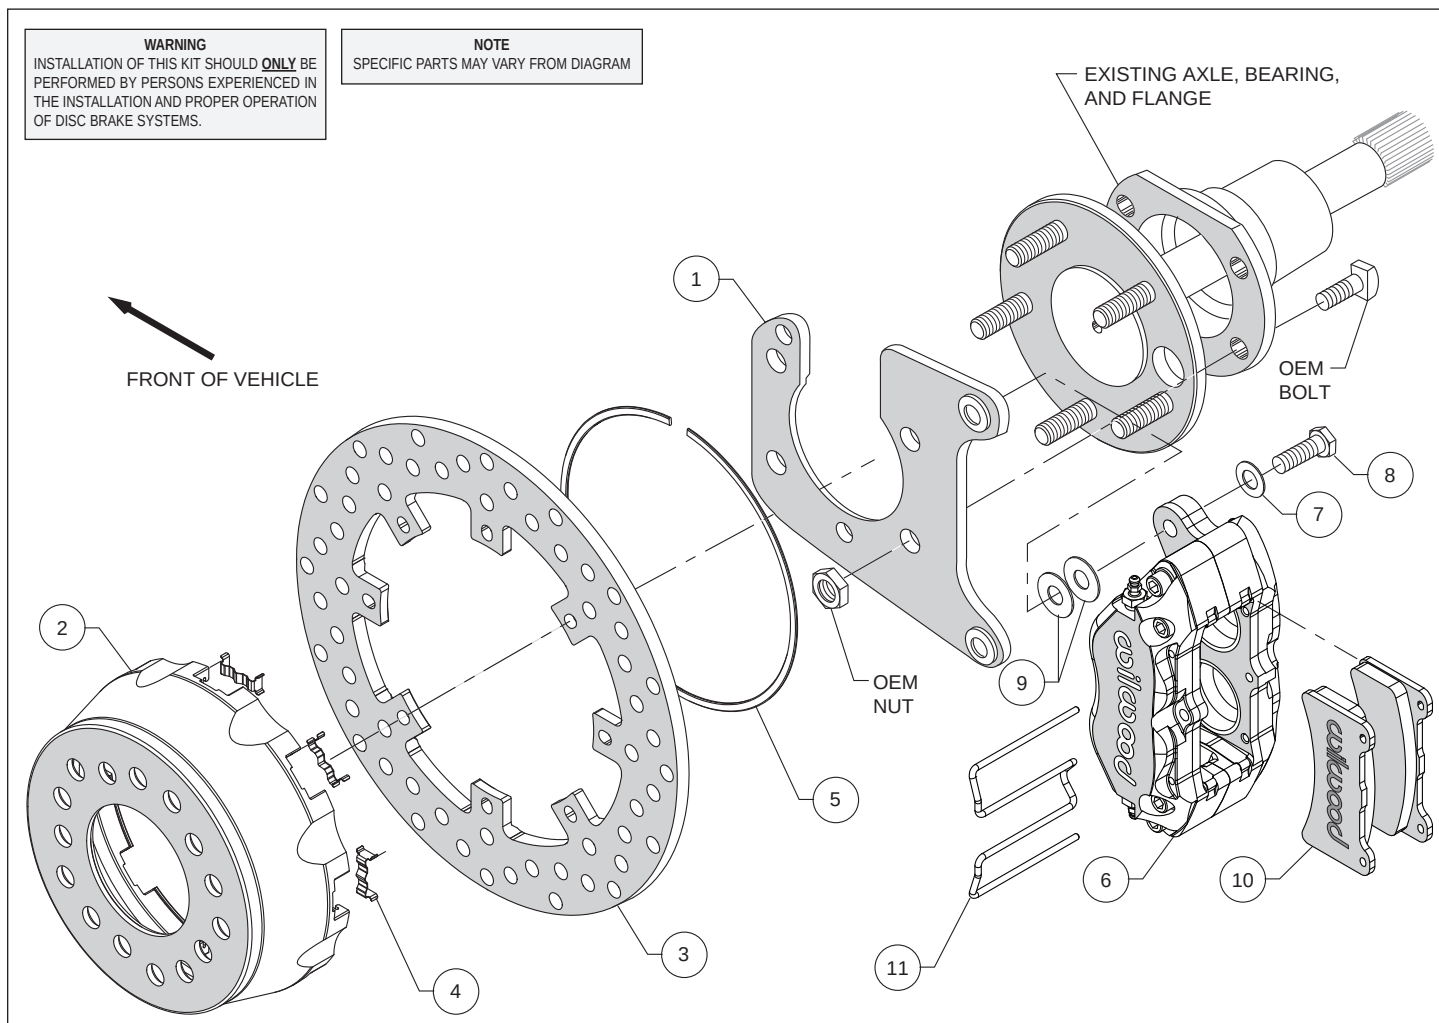

Figure 1. Typical Installation Configuration
Assembly Instructions (numbers in parenthesis refer to the parts list and Figure 1 on the preceding pages): **CAUTION:** All mounting bolts must fully engage clinch nuts. Be sure to check that all bolts are either flush or protruding through flanged side of clinch nut after shimming, Figure 5.
- Install the caliper mounting bracket (1), with the slot for the axle pointing upward, to the housing flange using the OEM bolts and nuts, as shown in Figure 1 and Photo 1. Ensure that the heads of the clinch nuts are facing outboard, Photo 1. Apply red *Loctite*® 271 to the OEM bolt threads and torque to OEM specifications.
- Insert the dynamic mount wear plates (4) into the slots in the hat (2) making sure the tabs snap in place, Photo 2. Orient the rotor (3) as shown in Figure 1 and Photo 3, with the flush mount tab side facing the hat. Attach the rotor to the hat using snap ring (5) by pushing down on the rotor and installing the ring into the groove in the hat, as shown in Photo 4. Ensure that the ring is fully engaged in the groove.
- Align the correct hole pattern in the hat (2) with the axle stud pattern and slide the hat/rotor assembly onto the axle hub. **NOTE:** The hat must fit flush against the axle flange or excessive rotor run out may result. Install three lug nuts (finger tight) to keep the hat/rotor in place while continuing with the installation. **NOTE:** Some OEM and aftermarket axles come with stud sizes larger than 0.50" diameter. Verify stud size, and if necessary, have a qualified machine shop drill the hats to the correct size.
- NOTE:** Please reference the caution statement at the beginning of the assembly instructions. Mount one caliper (6) onto the mounting bracket (1) using bolts (8) and washers (7), as shown in Figure 1. Initially place two .035" thick shims (9) on each bolt between the caliper and the bracket, Photo 5. Temporarily tighten the mounting bolts and view the rotor (3) through the top opening of caliper. The rotor should be centered in the caliper, Photo 6. If not, adjust the caliper by adding or subtracting shims between the bracket and the caliper. Always use the same amount of shims on each of the two mounting bolts. **NOTE:** The end of each bolt must be flush with or slightly protruding from the head of the clinch nut. If necessary, place spare shims between washer and caliper mounting ear to achieve the proper clinch nut engagement, as shown in Figure 5. Once the caliper alignment and clinch nut engagement are correct, remove the bolts one at a time, apply red *Loctite*® 271 to the threads, and torque to